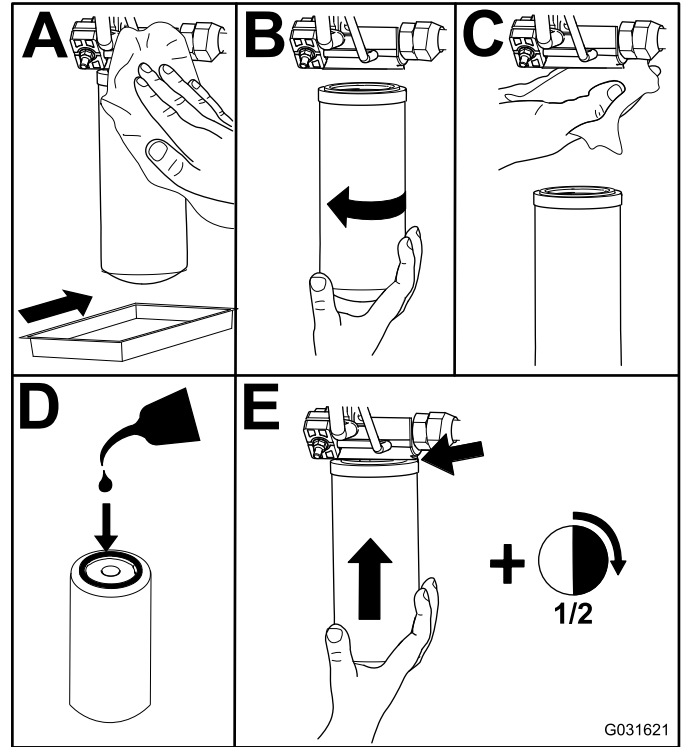

Figure 119
- Replace the hydraulic filters (Figure 119).